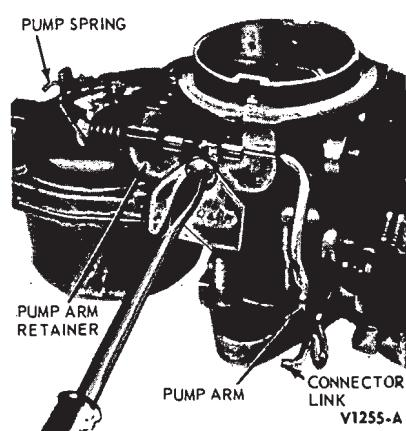

FIG. 10—Accelerating Pump Arm Removal
6. Remove the accelerating pump arm retainer screw and retainer, then remove the pump arm, spring and plastic sleeve (Fig. 10).